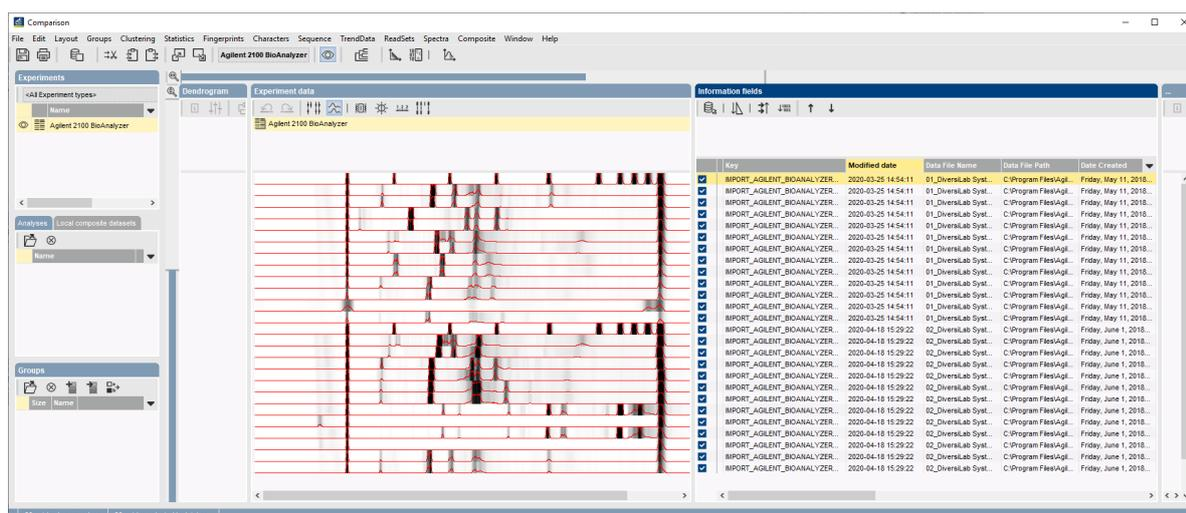

Figure 21: Show densitometric curves.
3. Click on the  next to the experiment name **Agilent 2100 Bioanalyzer** in the *Experiments* panel to display the patterns in the *Experiment data* panel (see Figure 21).
4. Select **Fingerprints > Show densitometric curves** () to display the densitometric curves (see Figure 21).